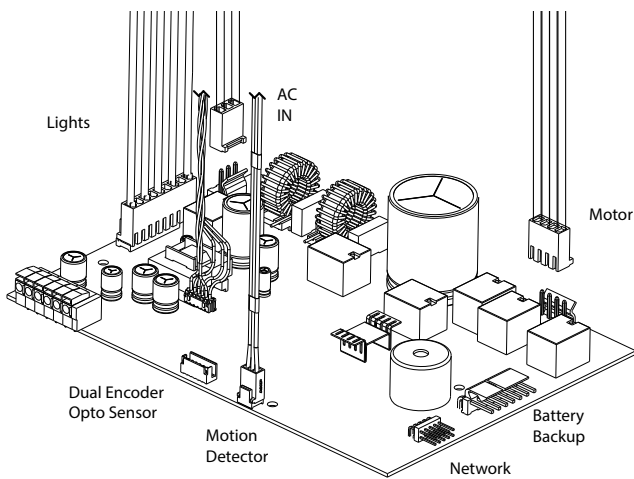

FIG. 5.
10. Unplug these harnesses from control board. FIG. 5.
16. Hang powerhead cover to chassis to install harnesses. Including green ground wire to chassis (if equipped) **Note: Be certain to install all harnesses in the correct position being sure to install with locking tabs facing each other. (Detailed in FIG. 5 - Step 10)**